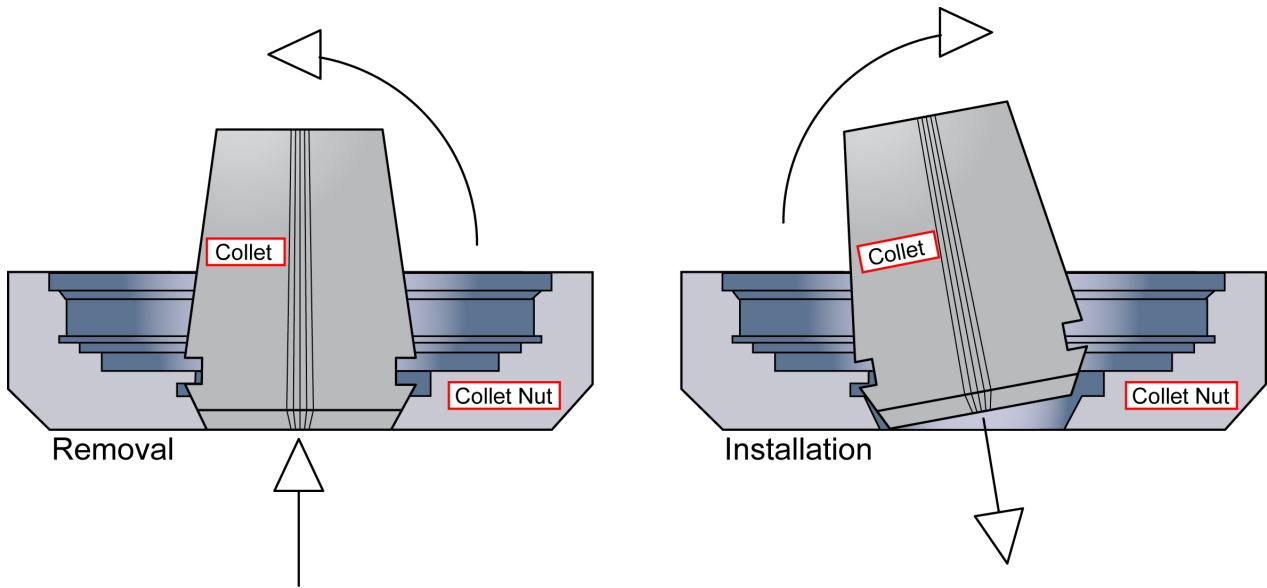

Figure 2-2: Schematic of Collet Insertion Into and Removal From Collet Nut
- Step 5: Refer to the instructions in Figure 2-2 to install or remove a collet from the collet nut.